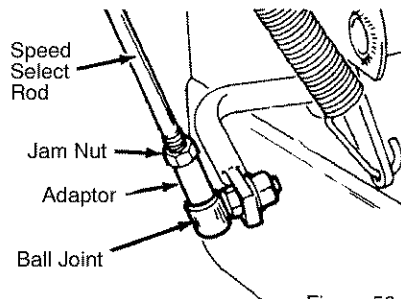

Figure 50
2. Loosen hex **jam nut** on **speed select rod**. Remove **ball joint** from **shifter bracket** (see Figure 50).
the **shifter rod** (see Figure 50). When aligned, attach the **ball joint** to the **shifter rod**.